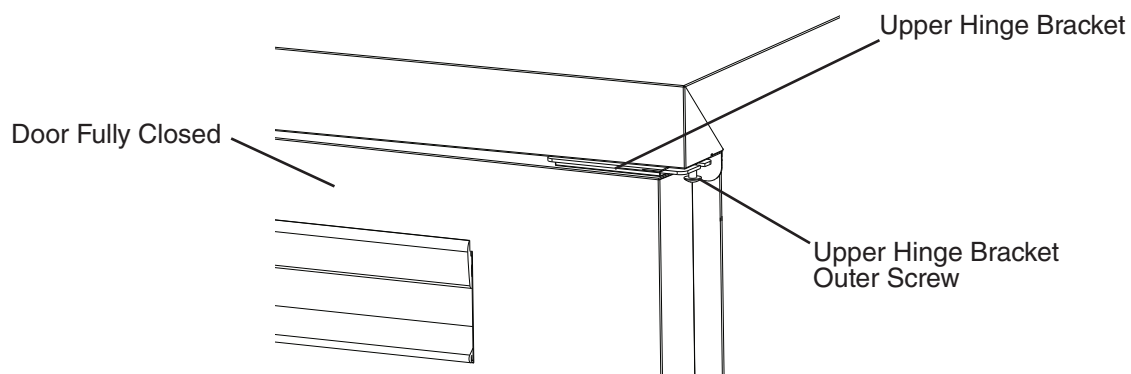

Fig. 36
18) Close the door and tighten the upper hinge bracket outer screw. See Fig. 36.
- 20) Place the left rear bracket in place on the center rear drawer frame bracket with hex-bolts removed in step 4. Leave loose, do not tighten at this time. See Fig. 36.